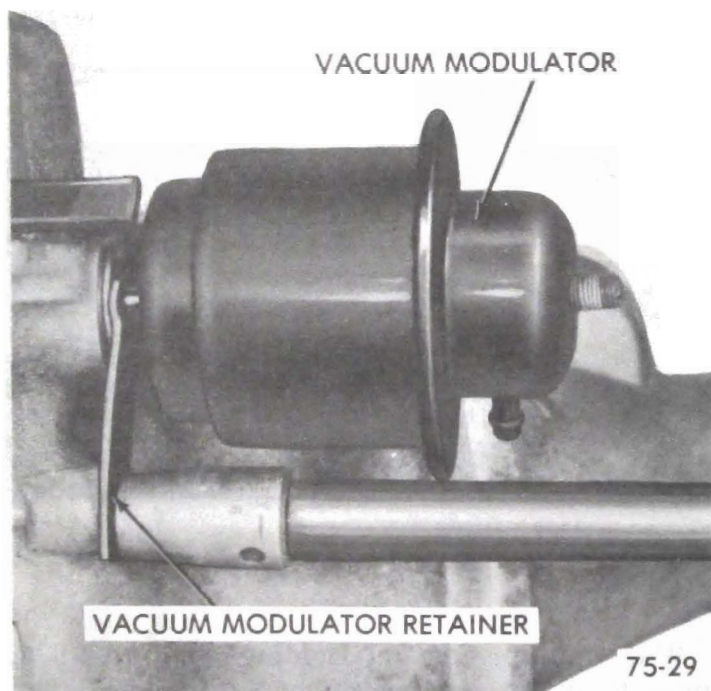

Figure 75-71
1. Remove modulator assembly attaching bolt and retainer. See Figure 75-71.